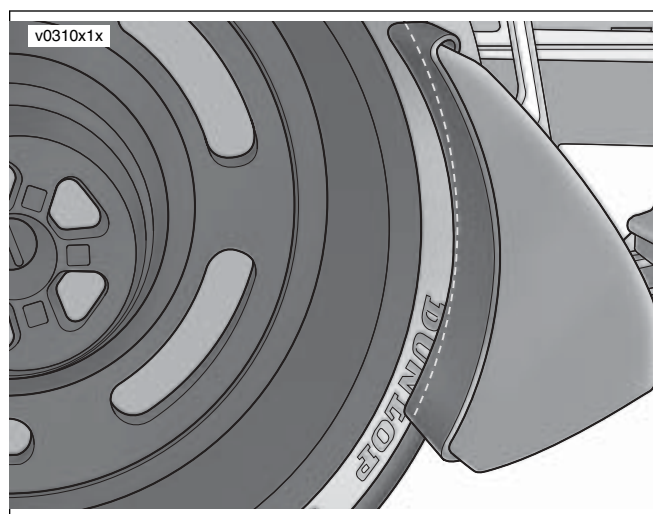

Figure 1. Proper bead breaker clearance and tool alignment (approximately 3/4-inch away from rim and positioned on sidewall line)
- See Figures 1 and 2. Carefully adjust and maintain tire changing machine fixtures to ensure adequate clearance with painted surfaces.